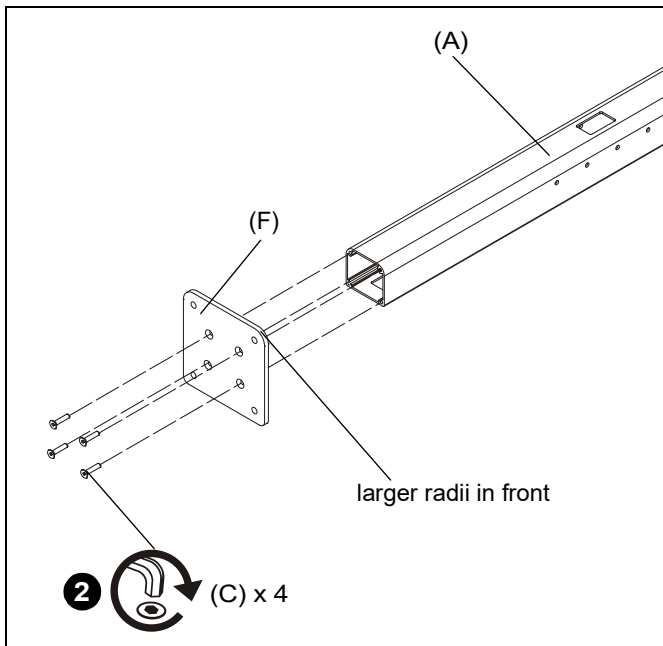

Figure 1
1. Lay array column (A) down on a flat surface.
2. Use four 5/16-18 x 1 1/2" flat head cap screws (C) to connect each bolt down plate (F) to each columns (A). (See Figure 1)